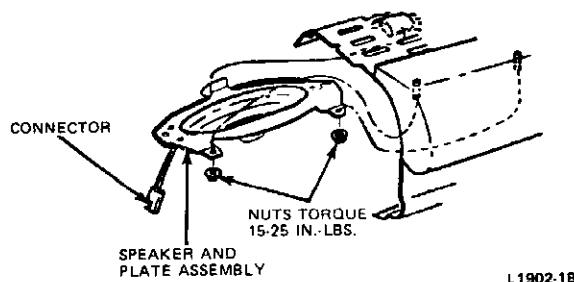

FIG. 5 Front Speaker Installation—Pinto and Bobcat
2. Remove four screws retaining the radio-to-instrument panel and one screw at the rear support bracket. Pull the radio rearward in the vehicle. (Fig. 5).